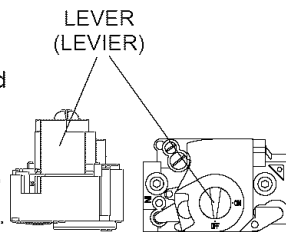

Figure 1
These furnaces are equipped with roll-out limit switch(s), a vent safety switch, and a pressure switch (See Figure 1). The pressure switch verifies that the flame is receiving combustion air. If the flame is not drawn into the heat exchanger tube, the roll out limit switch or flame sensor, will shut the furnace down.
6. Push lever in slightly and move left to OFF. (See Figure 1)
7. Wait five (5) minutes to clear out any gas. Then smell for gas, including near the base of the unit.
8. Push lever in slightly and move left to "ON". (See Figure 1)
Do not use force. (See Figure 1)
If the combustion and circulating air blowers are operating, and items 1 through 6 have been checked without identifying the cause of the problem, press the red reset buttons on the vent safety and the roll out limit switches. (See Figure 1).